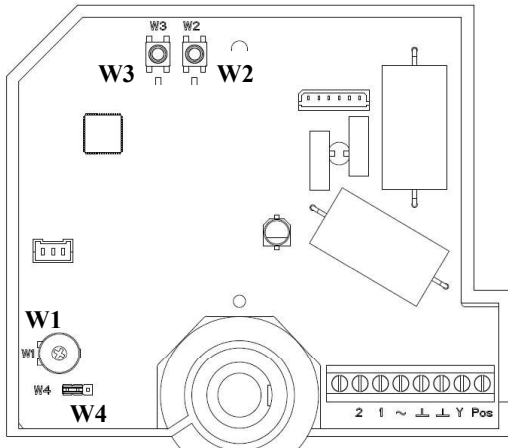

Fig 1. Circuit Board Layout
① Factory default setting. It can be reversed by pushing button W3 on circuit board (see Fig. 1).
Input signal Y can be selected by button **W2** (see Fig. 1). When LED on, signal is 0...10 Vdc (factory default); when LED off, input signal is 2...10 Vdc.
The moving direction can be reversed by pressing button **W3** (see Fig. 1). When LED is ON, input signal 0(2) Vdc represents the upper limits (factory default); when LED is OFF, input signal 0(2) Vdc represents the lower limit.